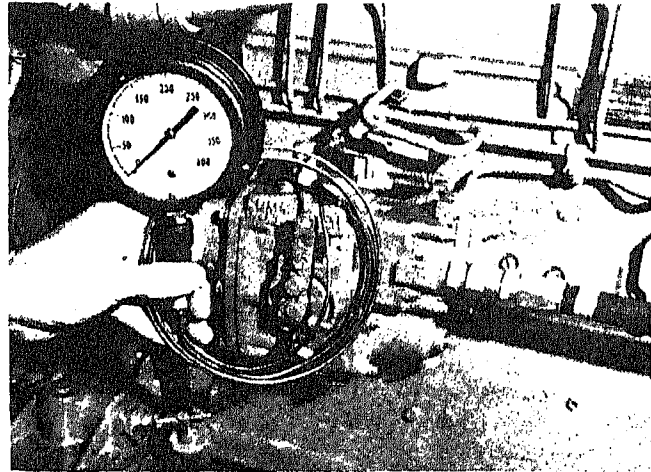

Fig. 5-23. Checking fuel manifold pressure
1. Check maximum fuel manifold pressure with ST-435. Fig. 5-23. Remove plug from shut-down valve and connect gauge line. Run engine up until governor "cuts in" and check maximum pressure reached. Compare with previous readings to determine if fuel pressure output is satisfactory. Normally this check is required only if loss of power is suspected.